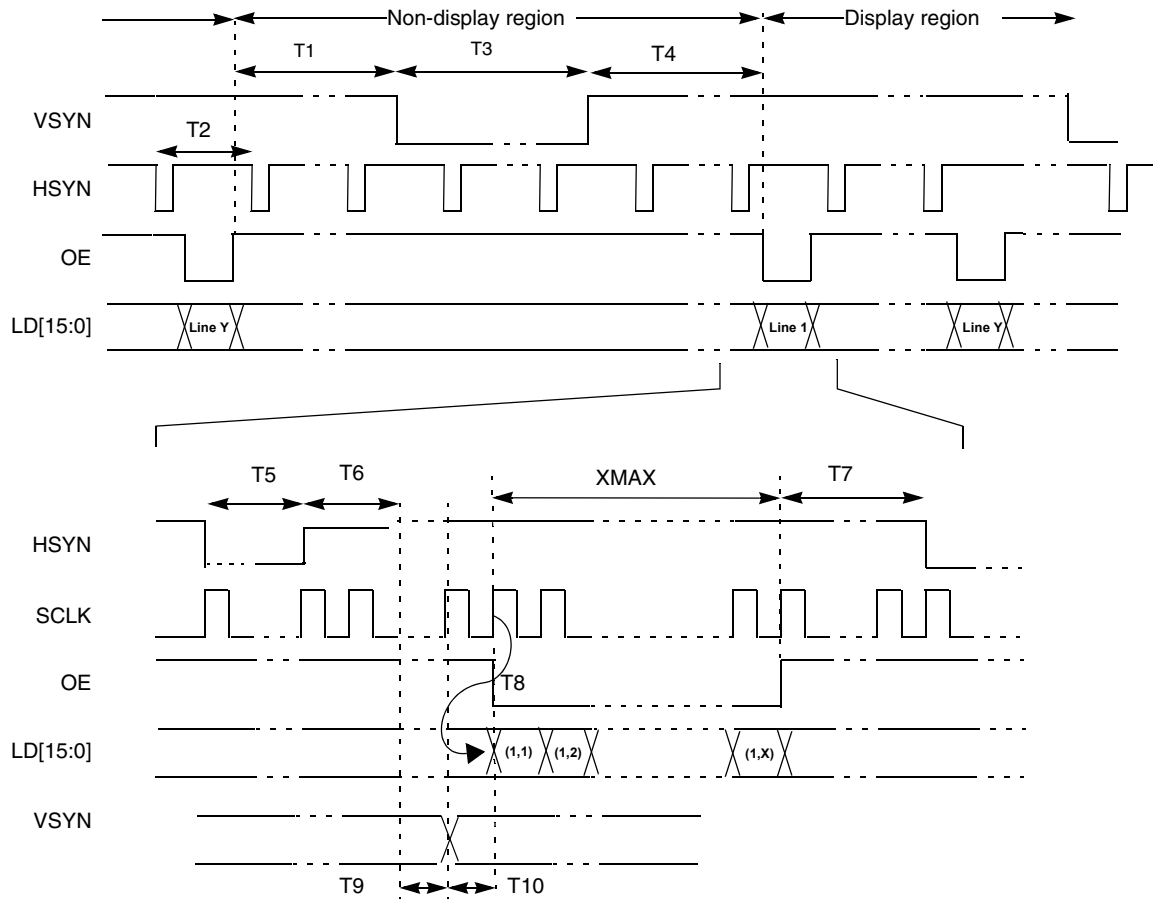

Figure 44. 4/8/16 Bit/Pixel TFT Color Mode Panel Timing
- VSYN, HSYN and OE can be programmed as active high or active low. In Figure 44, all 3 signals are active low.
- SCLK can be programmed to be deactivated during the VSYN pulse or the OE deasserted period. In Figure 44, SCLK is always active.